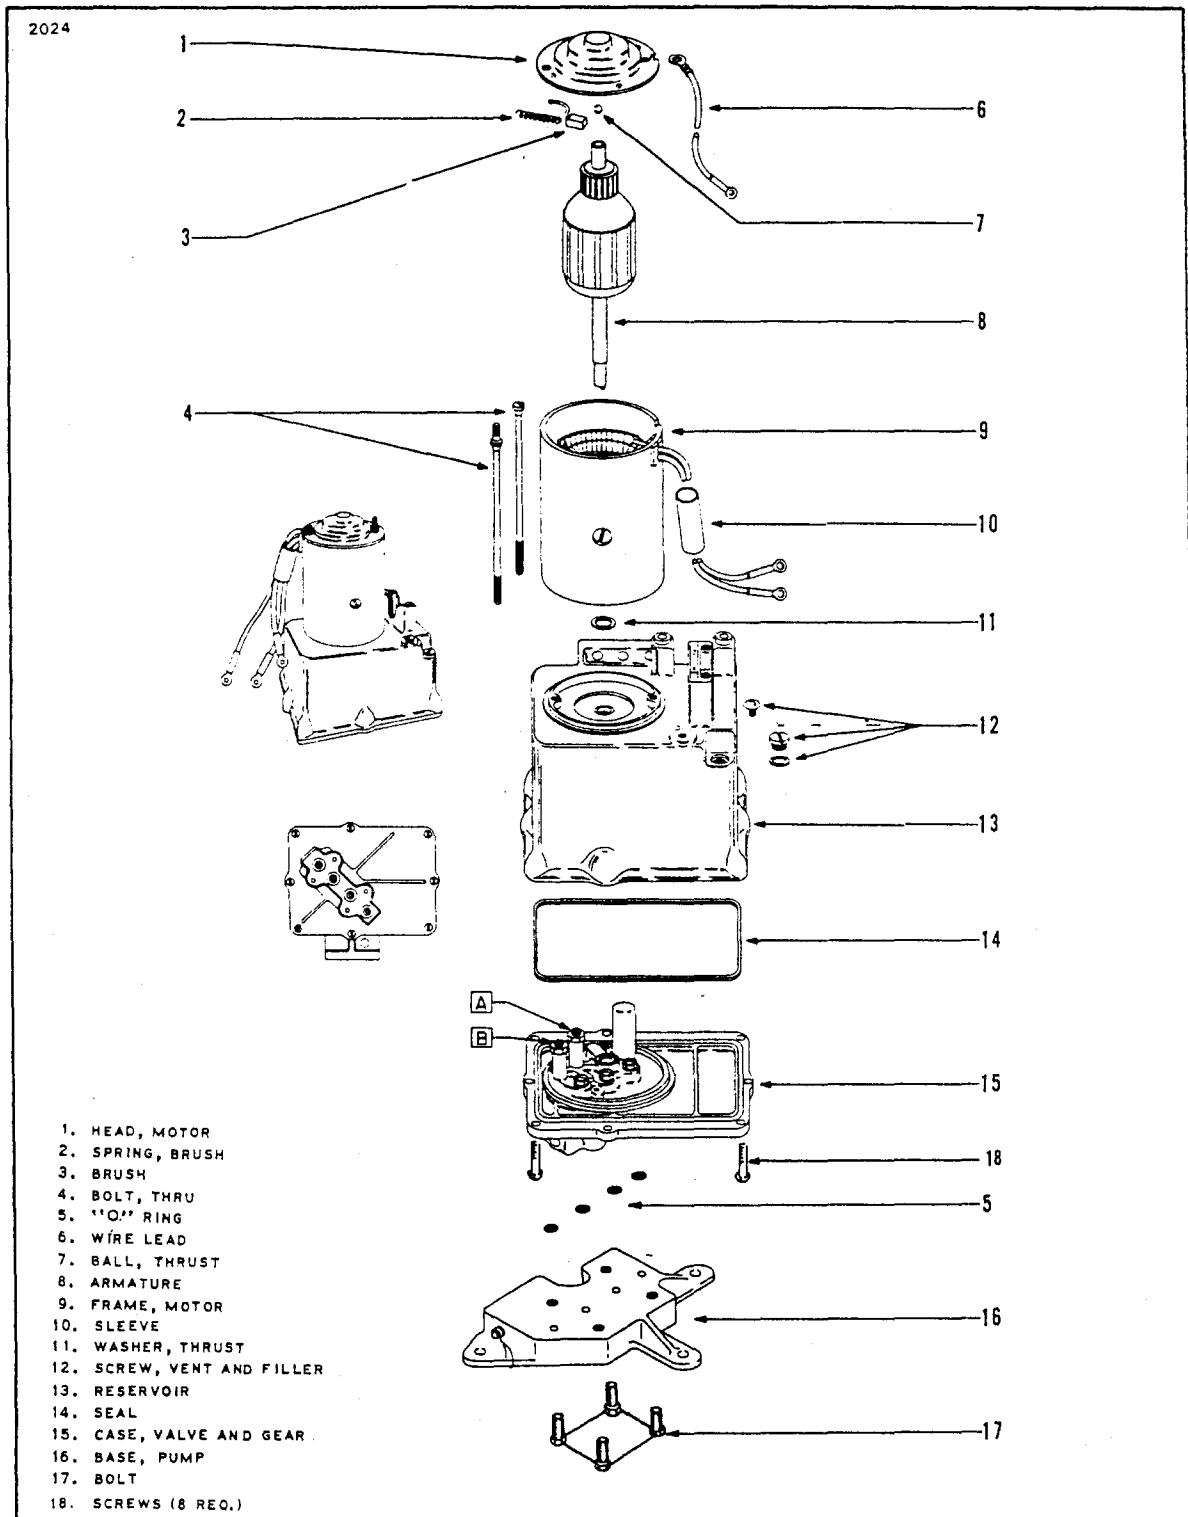

Figure 6-3. Hydraulic Pump/Reservoir, Exploded View
6-6. DISASSEMBLY OF HYDRAULIC PUMP. (Refer to Figure 6-3.) After the hydraulic pump has been removed from the airplane, cap or plug all ports and clean the exterior of the pump with a dry type solvent to remove accumulated dust or dirt. To disassemble any one of the three main components of the pump, proceed as follows:
6-8. ASSEMBLY OF HYDRAULIC PUMP. (Refer to Figure 6-3.)
1. Position the motor frame (referring to Figure 6-3, identified as No. 9) on the reservoir (No. 13). Note the aligning marks on the frame and reservoir.
2. Place thrust washers (1), of the same amount removed, on the drive end of the armature (8).
5. Insert the thrust ball (7) in the bearing of the head assembly (1). To hold the ball in position, place a small amount of light grease inside the bearing.
6. Place head assembly on frame and allow brushes to extend over commutator. Remove the string securing the brushes in the holders. Push head assembly on frame and ensure proper indexing of head and frame assemblies. Secure in place with thru bolts (4).
7. Check freedom of rotation and end play (thrust) of the armature within the assembly. A minimum of .005 of an inch end play is allowable. Should this be incorrect, adjust by adding or removing thrust washers (11) on drive end of armature shaft, as required.
- b. The valve body and gear case assembly (15) may be assembled to the reservoir (13) as follows:
5. Connect the blue lead to the positive terminal of the power supply. Pump should operate and the high pressure gauge should indicate between 1600 to 2000 psi. (Should the pressure be incorrect, adjust valve "A", Figure 6-3, in pump reservoir.)
7. Connect the green lead to the positive terminal of the power supply. Pump should operate in reverse, dropping the high pressure gauge to zero and the low pressure gauge should indicate between 500 to 800 psi. When the green lead is disconnected, both pressure gauges should indicate zero psi. (Should the pressure of 500 to 800 psi be incorrect, adjust valve "B", Figure 6-3, in pump reservoir.)